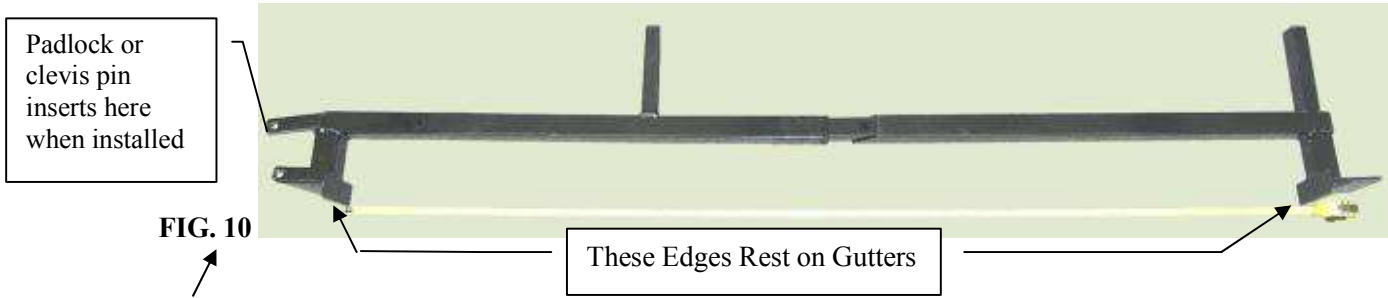

FIG. 10
- Stage 7 – Carrier is locked** When the carrier is closed, place a clevis pin or padlock through the locking eyes to prevent movement of the Mounting Base and Lifting Arm as shown in FIG. 10. The vehicle must not be moved without the carrier being fully locked.